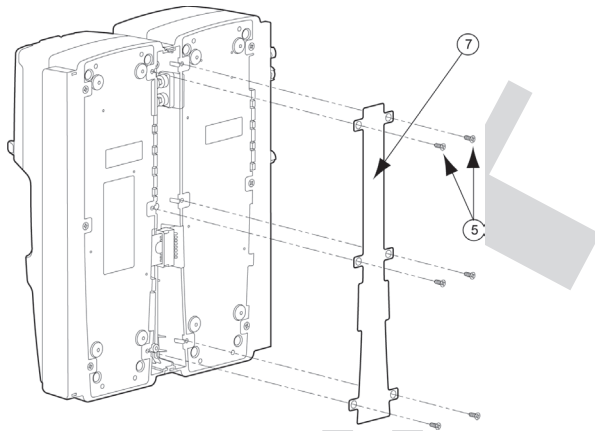

Figure 10. Attaching Back Cover Plate (Back View)
22. Fasten the bottom cover plate to the space between the two docking modules using six Phillips flat-head screws (refer to Figure 10).